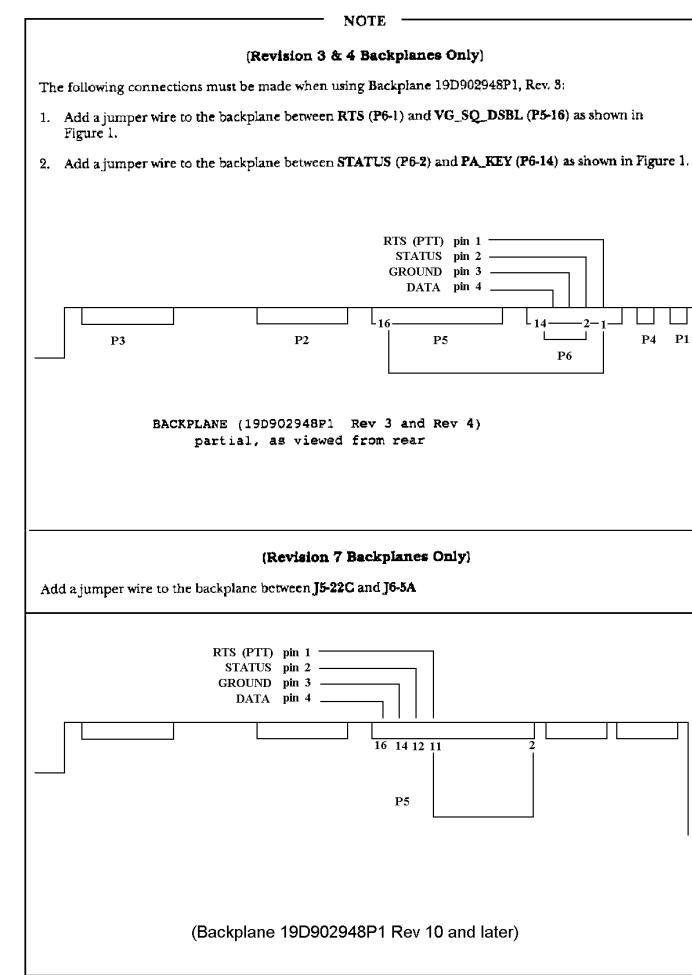

Figure 1 - MASTR III Backplane
For stations with Backplane 19D902948P1, Rev. 3 see additions and Figure 1 in the **Compatibility Section**.
1. Make the following connections to the Backplane as shown in Figure 1: